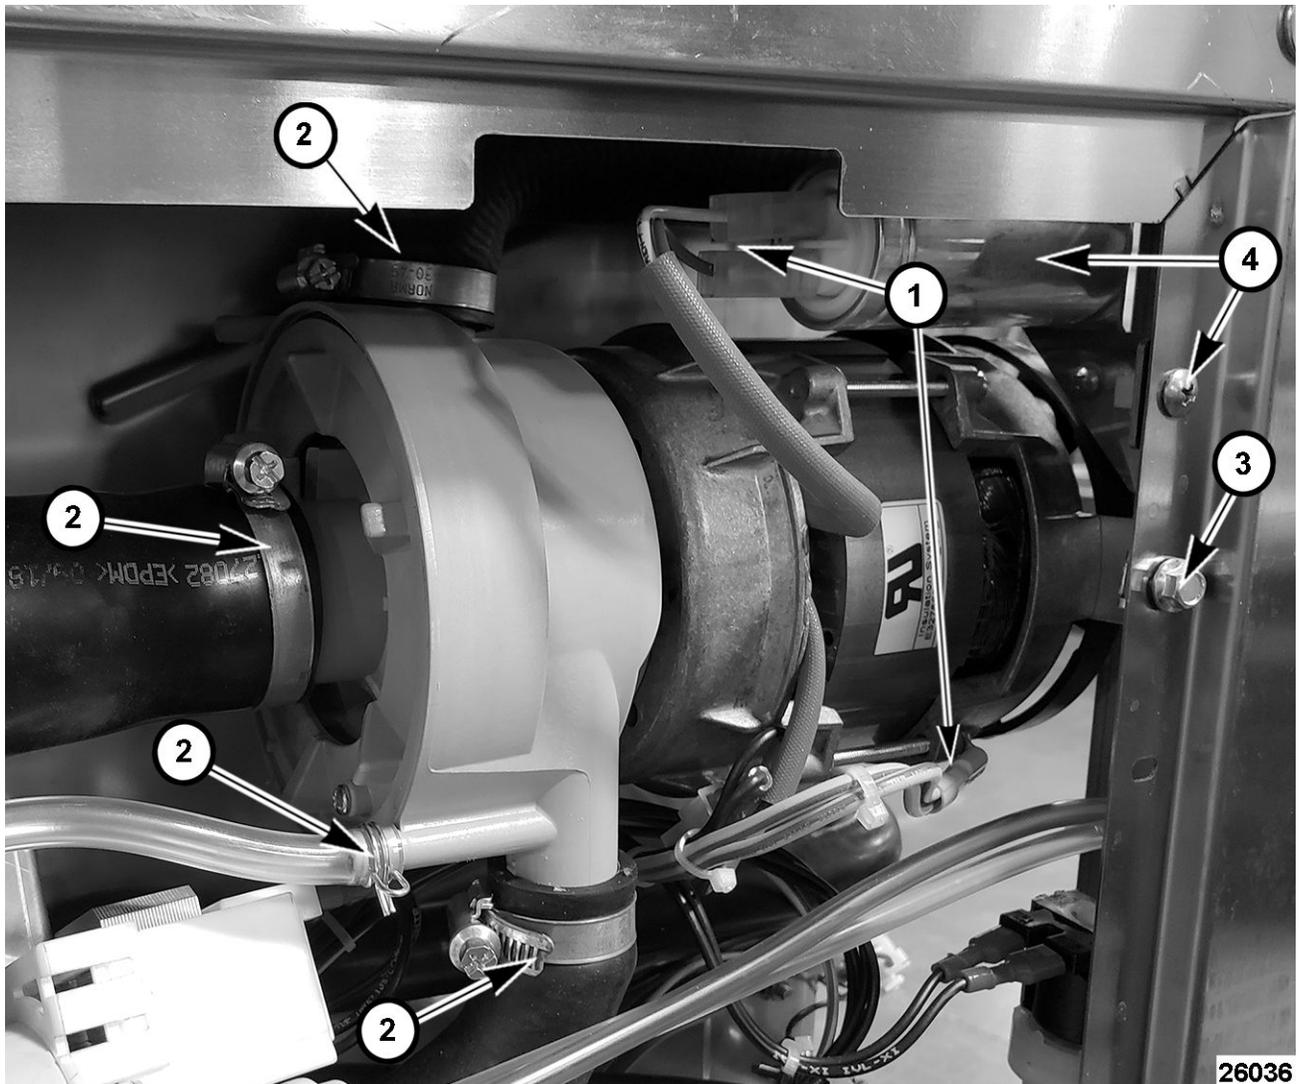

Fig. 28
4. Disconnect wash pump motor and capacitor wires (1, Fig. 28).
5. Remove capacitor (4, Fig. 28).
6. Disconnect wash pump motor hoses (2, Fig. 28).
7. Remove bolt (3, Fig. 28) and remove motor from unit.